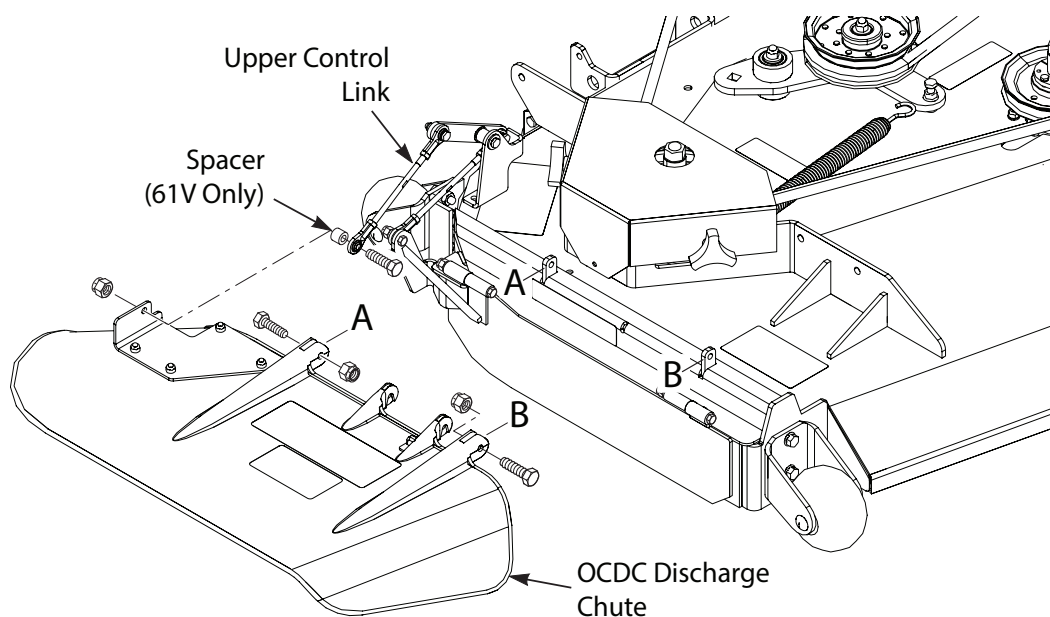

Figure 3-57. OCDC Discharge Chute Installation
- Install the OCDC discharge chute to the cutter deck. Secure using two (2) 5/16-18 x 1-3/4" bolt and two (2) 5/16-18 elastic stop nuts. See Figure 3-57, Page 36.
- Secure the upper control link to the OCDC discharge chute using one (1) 5/16-18 x 1-1/2" bolt and one (1) 5/16-18 elastic stop nut. See Figure 3-57, Page 36.